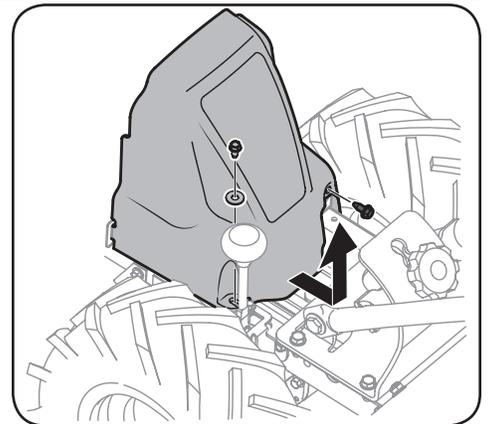

Figure 5-2
3. Remove the hex washer screw (1/4-20 x .500) and flat washer (.28 x .74 x .063) from the left side of the belt cover and the hex washer screw (1/4-20 x .500) from the right side of the belt cover. Remove the belt cover. See Figure 5-2.